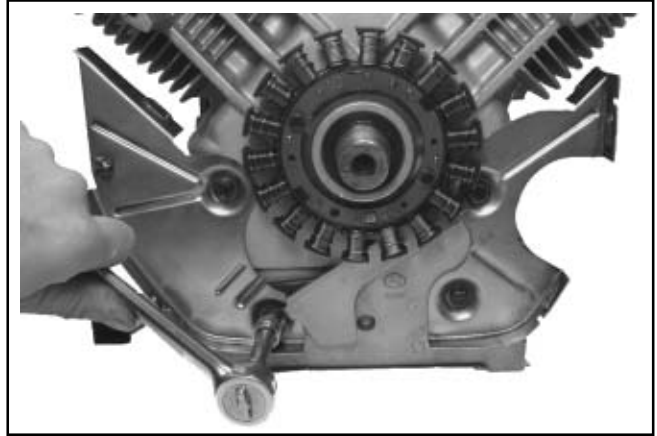

Figure 9-47. Removing Backing Plates and Stator Wire Bracket.
1. Remove the four screws securing the backing plates and stator wire bracket (if so equipped). See Figure 9-47. Remove the backing plates and stator wire bracket.